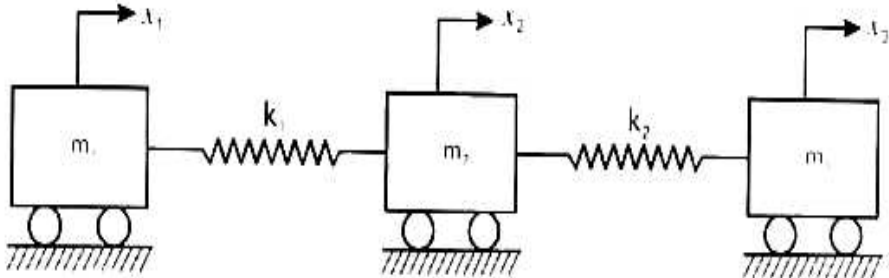

Fig. 10a
10. Find the natural frequencies of the system shown in Fig. 10a. Use Holzers method. 20